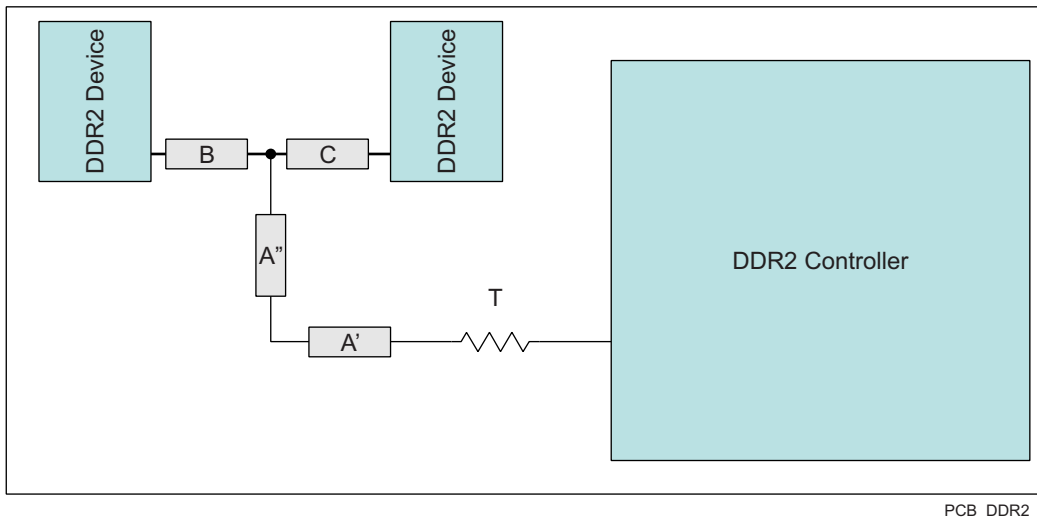

图 8-55. CK and ADDR\_CTRL Routing and Topology
图 8-55 shows the topology of the routing for the CK and ADDR\_CTRL net classes. The route is a balanced T as it is intended that the length of segments B and C be equal. In addition, the length of A = (A'+A'') should be maximized.
(1) The length of segment A = A' + A'' as shown in 图 8-55.